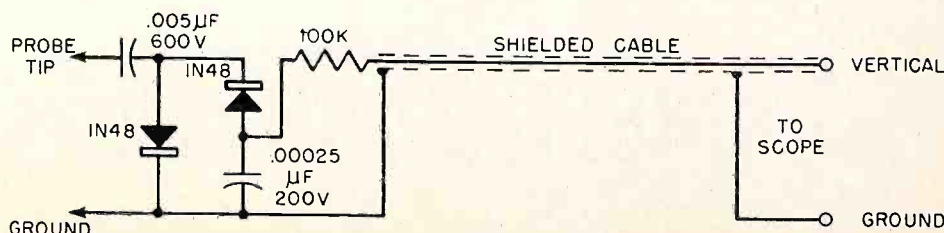

Fig. 5. High-voltage capacitive-divider probe.
**High-voltage Capacitive-divider Probe.** Fig. 5 illustrates a high-voltage capacitive-divider probe. The 1X2 tube is not used as a rectifier, but as an inexpensive high-voltage capaci-